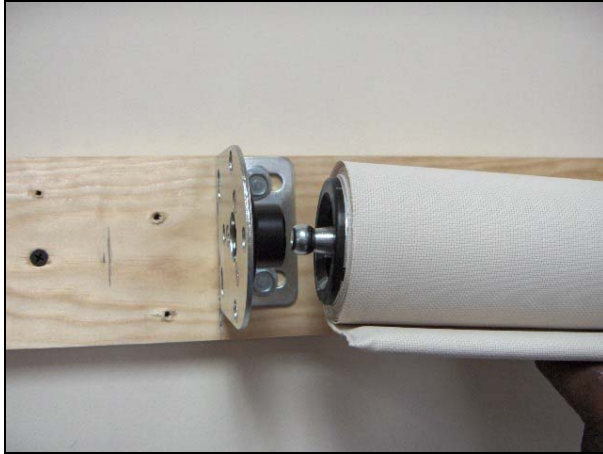

Figure 11 Motor Idler Going into Bracket
- Place the idler pin on the shade into the idler end bracket. See Figure 11.